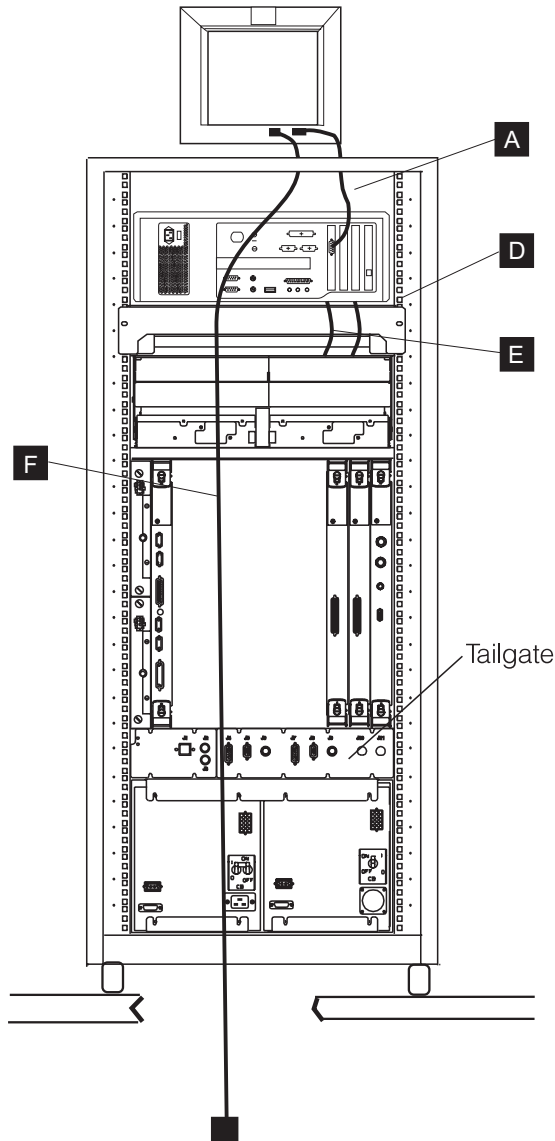
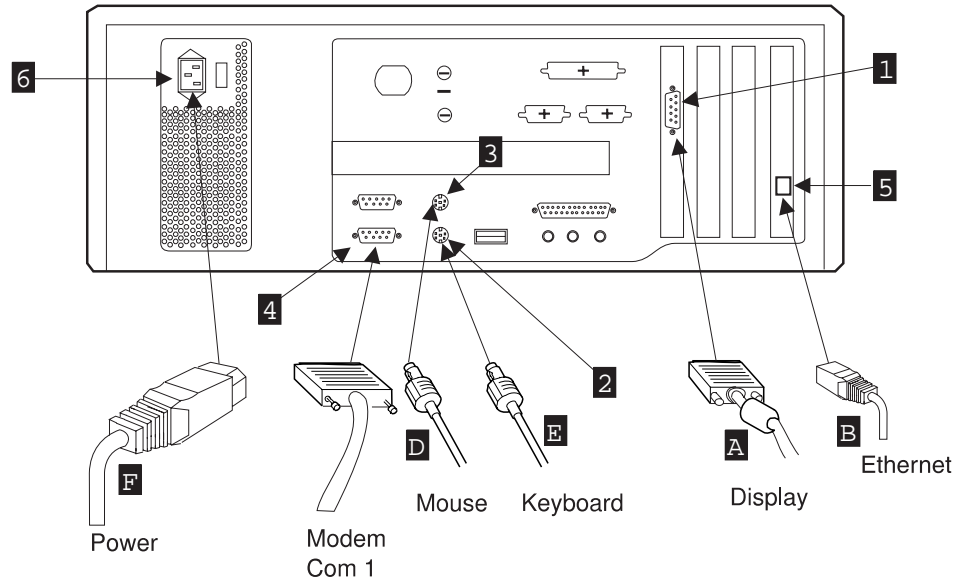

Figure 1-31. Display and Keyboard Cables Connection to the NAS
Figure 1-32. NAS Connectors
1. ____ At the rear of the rack (see Figure 1-31 to route and locate the cables and see Figure 1-32 on page 1-27 to locate the connectors at the rear side of the NAS), plug the cables as follows: